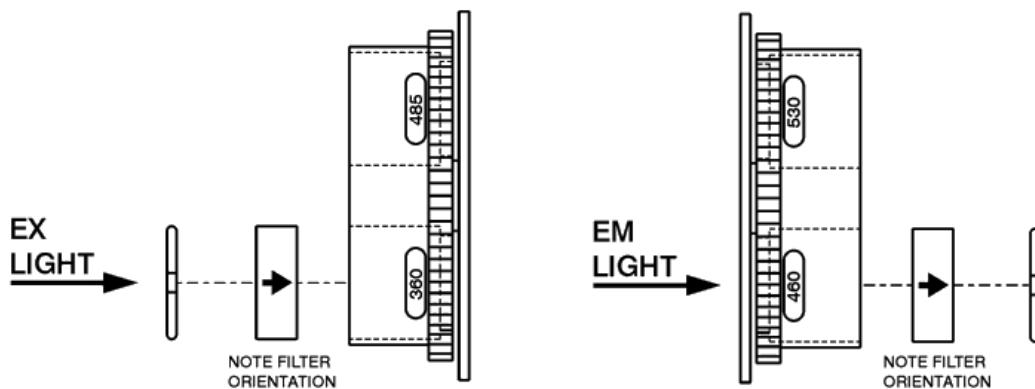

Figure 2: Excitation and Emission filter wheels, showing correct orientation of the filters
Each filter wheel is labeled as EX or EM, and can contain up to four filters and/or black plugs (also referred to as “dummy filters”). Each filter has its central wavelength and band pass values printed on its side, with an arrow to indicate the proper direction of light through the filter (see **Figure 2**). Filters and plugs are secured with C-clip filter retainers.
- Filter direction within each filter wheel is important, and the direction differs depending on the filter wheel type. A diagram on the inside of the reader's front panel door indicates orientation; see **Figure 2**.
1. Ensure that all filters and/or plugs are inserted properly (see **Figure 2**).
2. Orient the filter or plug (see **Figure 2**): Observe the arrow on the filter indicating the light direction. Align the filter's wavelength number with the window in each filter holder, then drop it into the desired location.